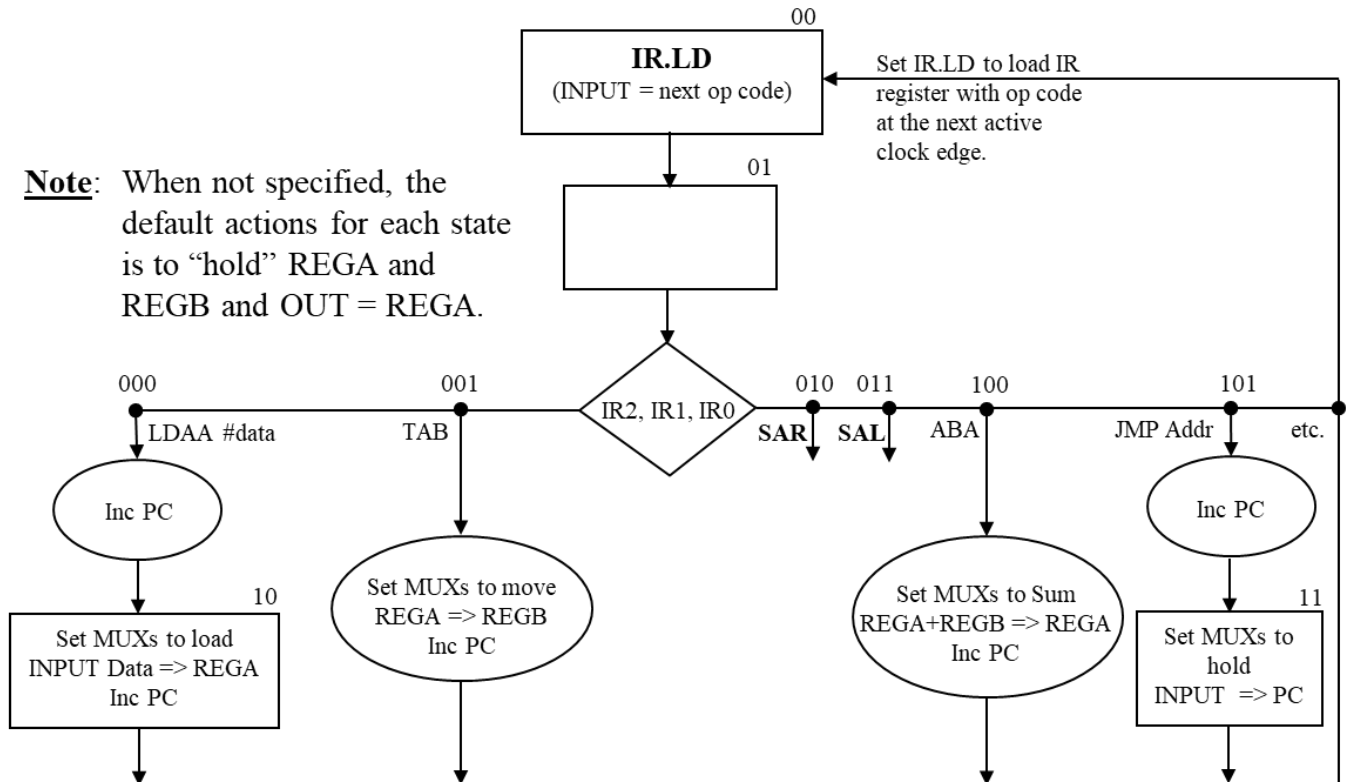

Figure 4. Controller flowchart (not an ASM).
- All the manual switching that you would need to do if part 1 of this lab was built (e.g., setting the INPUT = next op code or data) can be better accomplished by incrementing the address on the ROM. The ROM will have the information that (in part 1 of this lab) would have come from switches (or your DAD). This is accomplished by incrementing the PC register or "Inc PC," as shown in the Figure 4 flowchart.
- Create an ASM chart using the Figure 4 flowchart as an aid; i.e., utilize the actual signals to control the PC, IR, and the MUXs. Complete the ASM diagram, by also including the required elements for the SAR and SAL instructions.